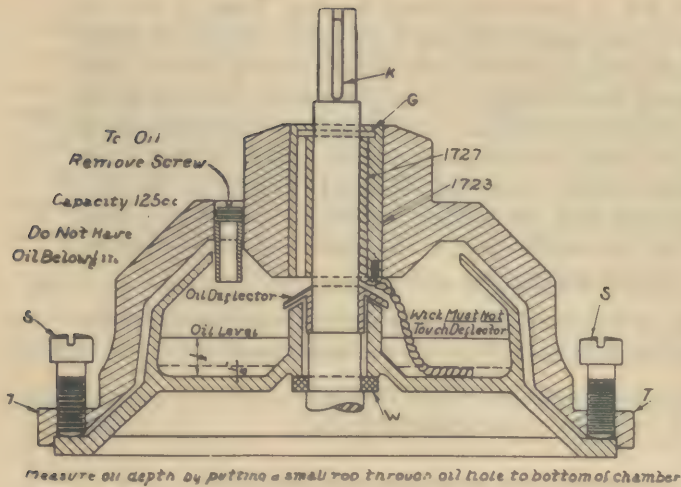

Fig. 5
(c) **Upper Bearing Size 2** (See Fig. 5) is an automatic wick oiler requiring high grade fluid lubricating oil. (See Instruction Card accompanying each Size 2 Centrifuge.) Inspection of this bearing for control of lubrication should be made at least twice a year. To get at the bearing for inspection, the head must be removed from the shaft [See (1) (b) (Note) above.]
Remove head from centrifuge shaft. [See "General Considerations" (1) (b) (Note)]. Remove the six cap screws S (Fig. 5), that secure the top cap containing the bearing bushing, No. 1727, and use two of these screws at the holes, T, to start the cap off. Place cap on a smooth wood block or bench, right side up, and drive out the old bearing bushing and drive in the new one (using a hard wood dowel instead of a metal rod. The dowel should be approximately the diameter of the bushing and flat on the end.) It is important to see that bushing is right end up. The concentric grooved end should be at the top.
Reassemble in reverse order making sure that the wick is properly adjusted to dip into the oil of the oil well and to clear the oil deflector, and coming up only to the lower edge of the concentric groove, G (Fig. 5).
*Be sure that the "oil deflector" (Fig. 5), is in place on the shaft when reassembling.*